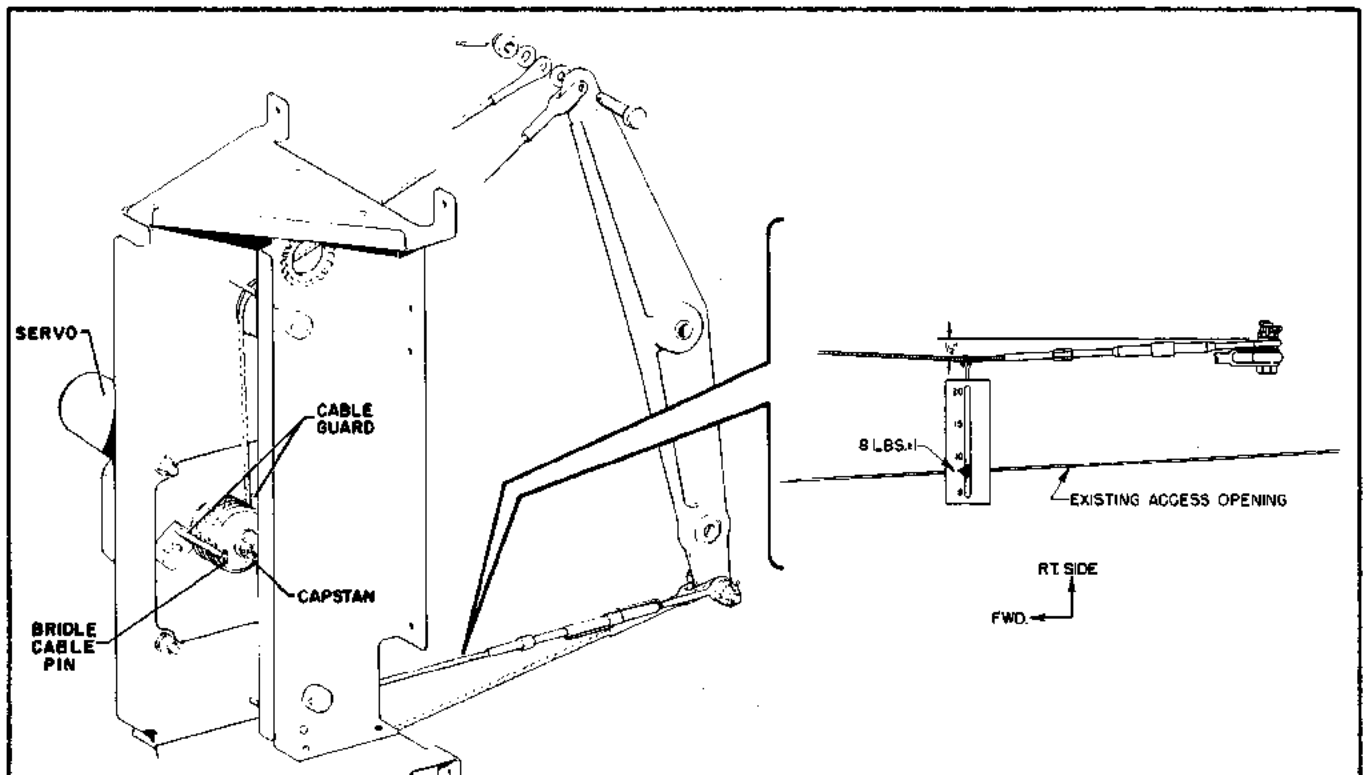

Figure 3-23. Pitch Servo Installation, PA-31-310, PA-31-325, PA-31-350 and PA-31P
**3-48. INSTALLATION OF PITCH SERVO. (PA-31-310, PA-31-325, PA-31-350 and PA-31P) (Refer to Figure 3-23.)**
- e. REFER TO FIGURE 3-9 AND CHECK THAT THE ELEVATOR CABLE TENSION (X) FORWARD OF THE BELLCRANK IS ADJUSTED TO  $20 \pm 2$  POUNDS PRIOR TO ATTACHING THE BRIDLE CABLE TO THE BELLCRANK. Attach the bridle cable to the bellcrank. The bridle cable is drawn around pulleys and installed over both the upper and lower bolts in the bellcrank. The end of the bridle cable with the turnbuckle should be attached to the lower arm of the bellcrank. Secure bridle cable to bellcrank with nut and cotter pin previously removed. With the elevator controls in neutral POSITION align the bridle cable pin installed in the capstan as shown in Figure 3-23. Adjust the turnbuckle until a deflection of 1/2 inch at the midpoint between turnbuckle and bulkhead (sta. 317.75) will produce 8 lbs.  $\pm 1$ . (Pull on fish scale or equivalent as shown in fig. 3-23.) Safety the bridle cable turnbuckle.